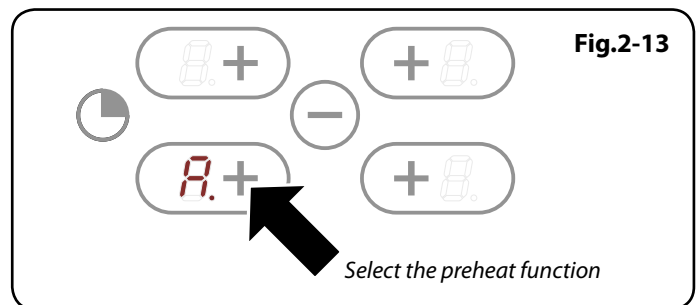

Fig.2-13
2. Press the '+' key to activate the auto function, as indicated by the 'A' (**Fig.2-13**).